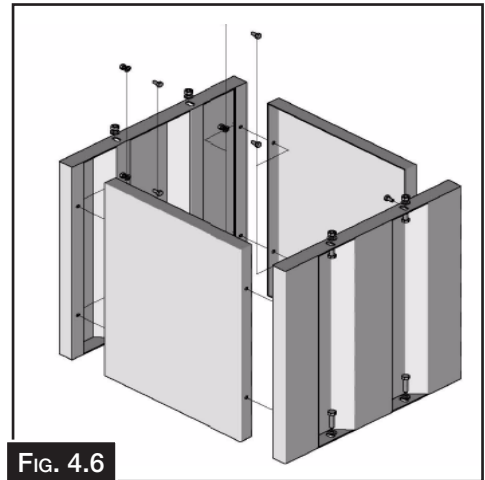

FIG. 4.6
1. Fit the side panels of the machine stand as shown in the diagram Fig. 4.6.